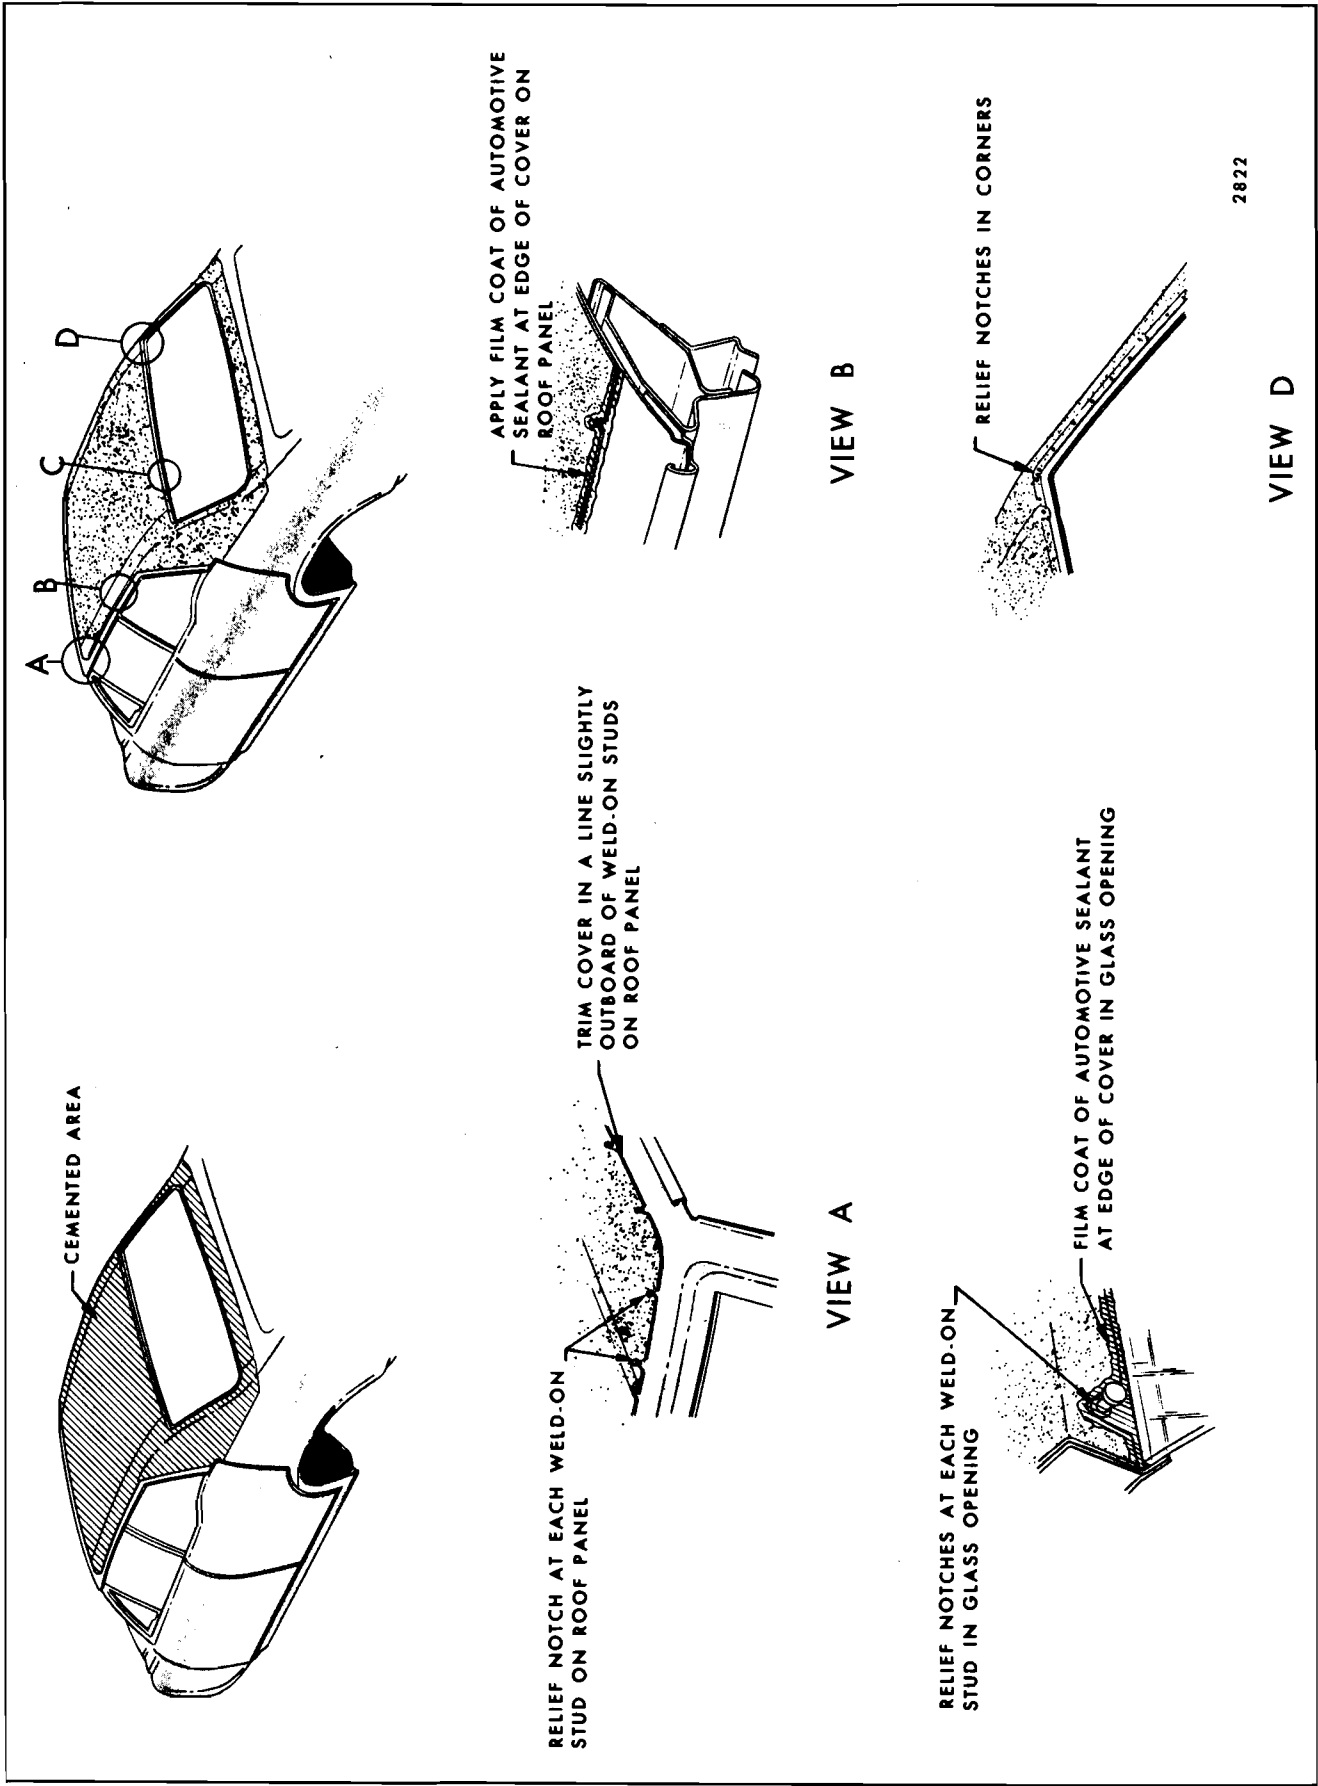

Fig. 12-7—Typical Fabric Roof Cover Installation with Roof Panel Moldings and without Pad
18. On styles equipped with roof panel moldings, trim fabric cover in a line slightly outboard of weld-on studs on roof panel. **DO NOT DAMAGE PAINT FINISH.** At front corners, raise cemented edge of cover and using scissors or sharp knife cut radius so roof panel moldings cover cut edge. Recement fabric cover to roof panel. Remove masking tape from roof panel (Fig. 12-7).